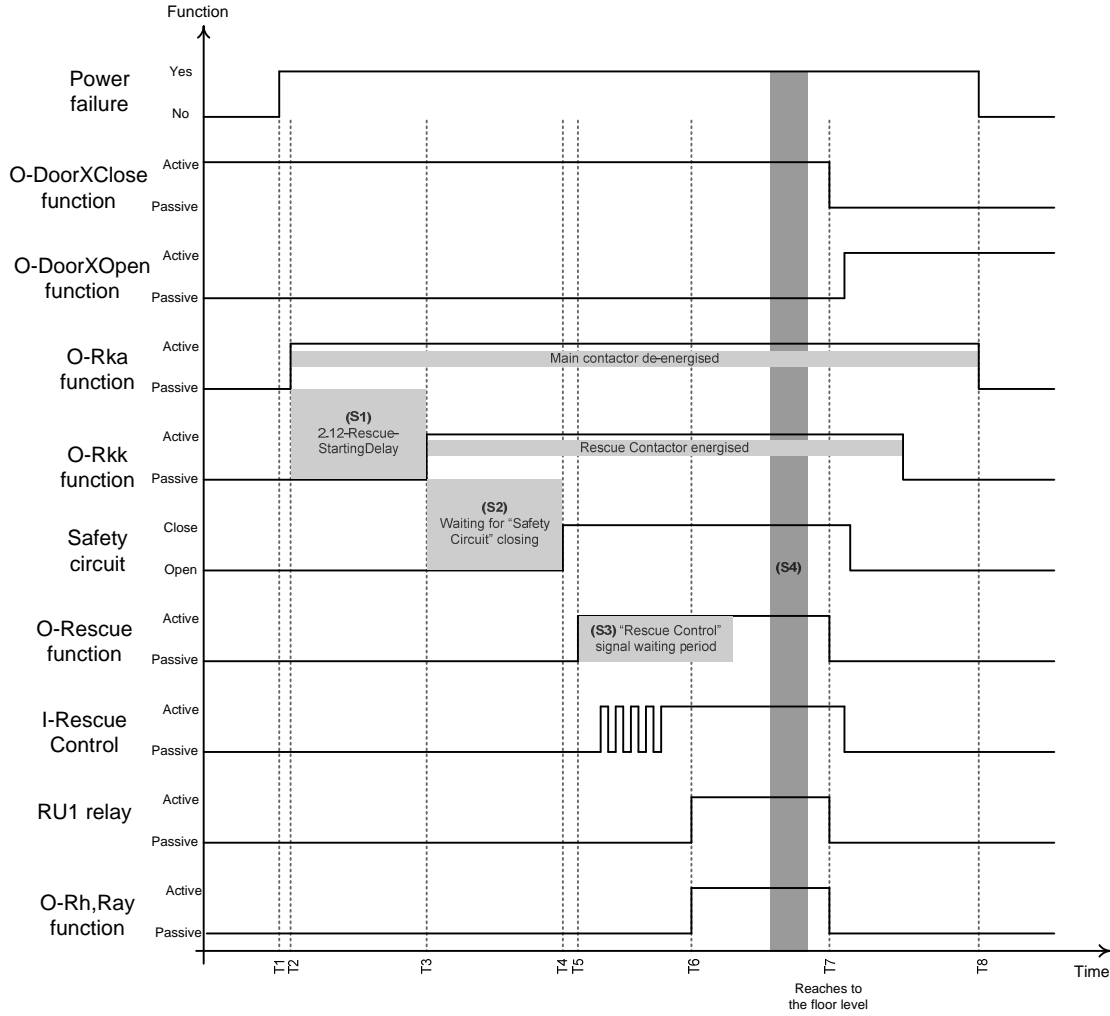

Figure 1: Process controlled by birINCI Controller.
1. The processes, which controlled by birİNCİ Control Board, described below. (See Figure 1) (Be sure to set birİNCİ as "Rope Lift". Addition, check the "O-Rka", "O-Rkk" and "O-Rescue" functions are adjusted correctly. For further details refer to birİNCİ User Guide).